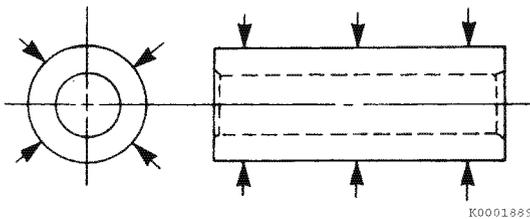

Figure 6-73
7. Measure the outside diameter of the wrist pin in three places and at 90° (**Figure 6-73**). See *Piston* on page 6-10 for specifications. Record the measurements.